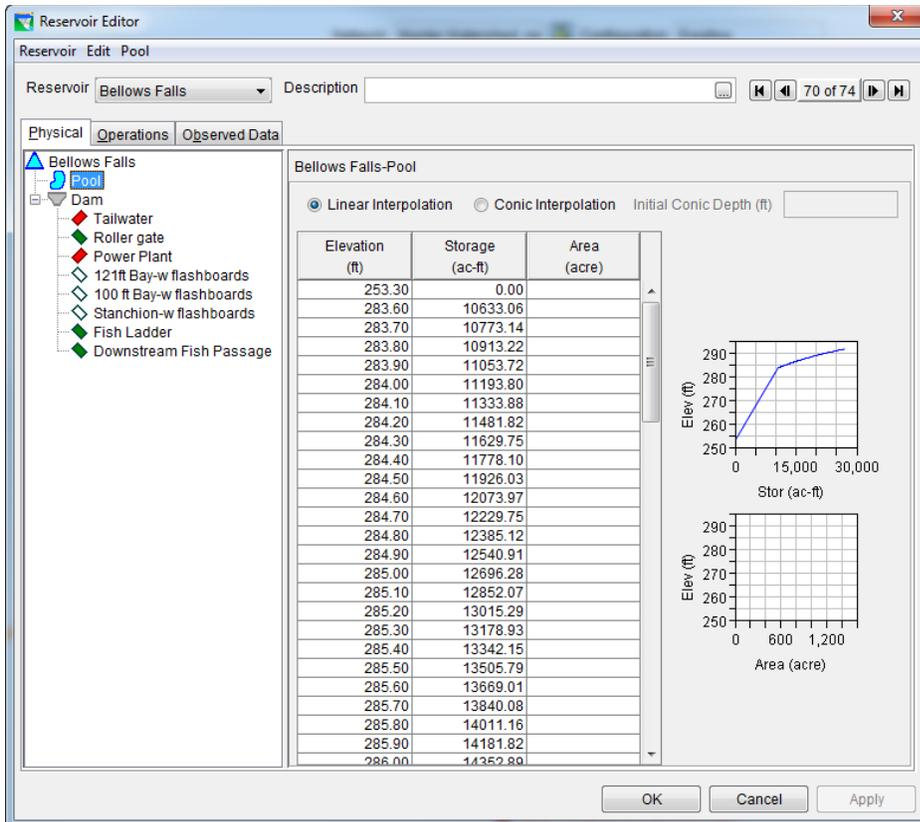
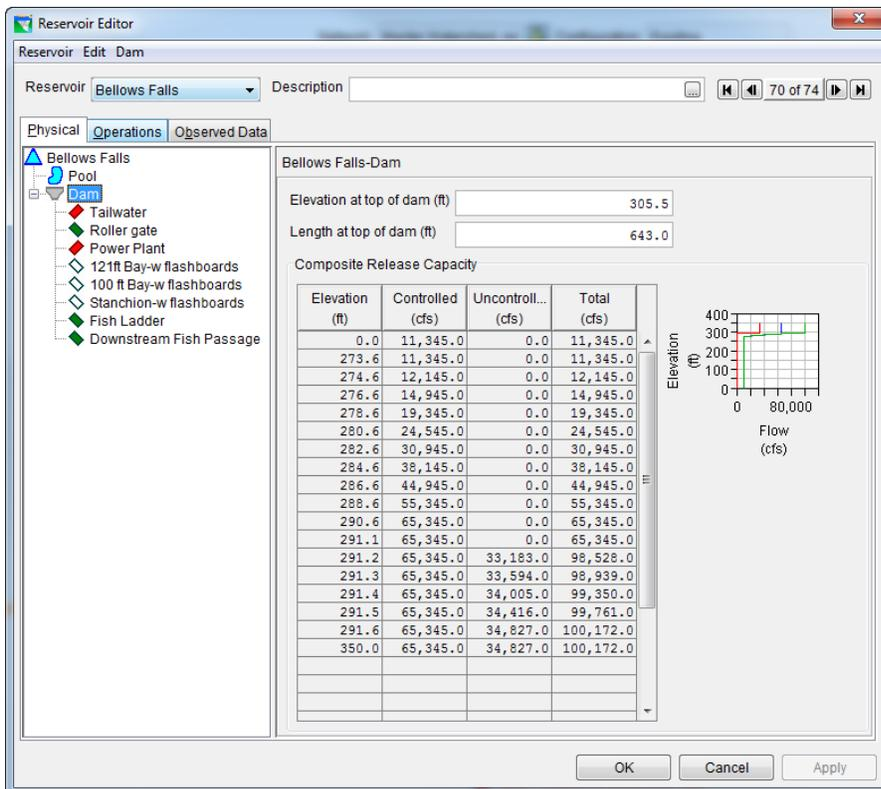

Figure 3: Reservoir Editor: Physical Tab -- Pool
Figure 4: Reservoir Editor: Physical Tab -- Dam
The physical characteristics of the reservoir are separated between the Pool and the Dam in the HEC-ResSim model. The elevation-storage-area defines the pool as shown in Figure 38. The dam consists of seven types of outlets: (1) controlled Roller gate, and (2) uncontrolled 121 ft Bay-w flashboards, (3) uncontrolled 100 ft Bay-w flashboards, (4) uncontrolled Stanchion-w flashboards, (5) controlled Fish Ladder, (6) Downstream Fish Passage, and (7) power plant as shown in Figure 4.